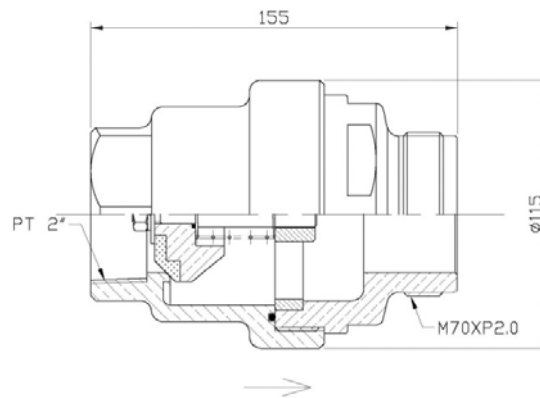

Figure 2.18. Check valve.
When multiple agent cylinders are connected to manifold, the check valve 50A is used to prevent the loss of agent and injury of personnel if the system is operated and discharged when an agent cylinder is disconnected or removed for maintenance. The check valve inlet has internal pipe threads (PT) and is connected to the flexible hose 50A (see Section 2.6) while the outlet has external metric threads and is connected to the manifold (supplied separately) via the manifold welding socket (see Section 2.11). The check valve is illustrated in Figure 2.18 and the corresponding technical data are summarized in Table 2.15.